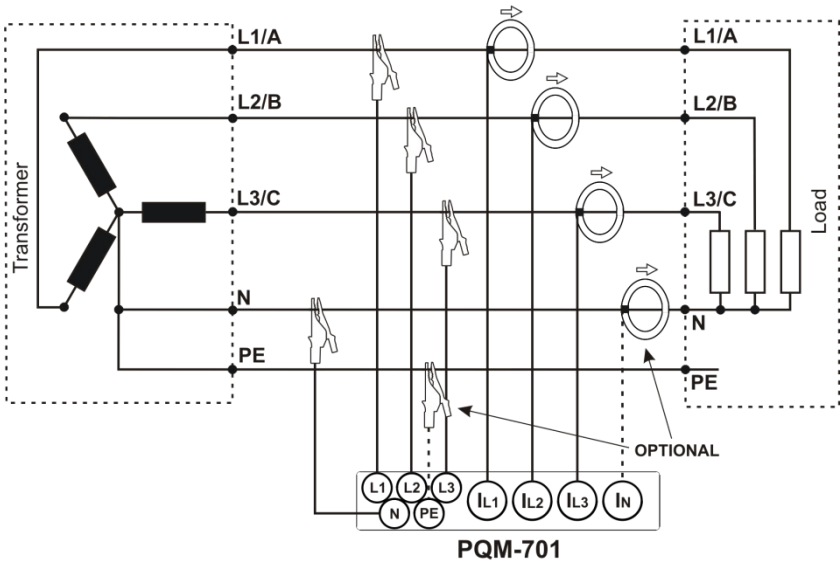

Fig. 5. Connection diagram – three-phase wye system with neutral conductor.
- Three-phase 4-wire wye (Fig. 5),
*For correct calculation of total apparent power S_ϕ and total power factor PF in a 4-wire, three-phase system, it is necessary to measure the current in the neutral conductor. In such case always activate the **N-conductor current** option and connect 4 clamps as shown in Fig. 5. For more information, refer to section 9.7.5.*